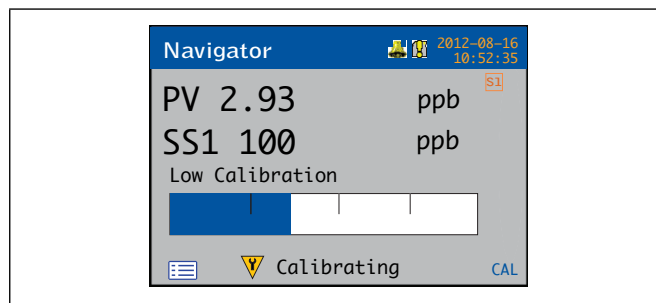

Fig. 5.1 Calibration view
5. To exit the *Calibration* page, press the  key (below the *OK* prompt). Calibration continues and calibration progress can be monitored from the *Calibration View* – see Fig. 5.1, page 24.
If the *Calibration* page is exited by press the  key (below the *OK* prompt) before the calibration has completed, progress can be monitored from the *View* mode – see Fig. 5.1.